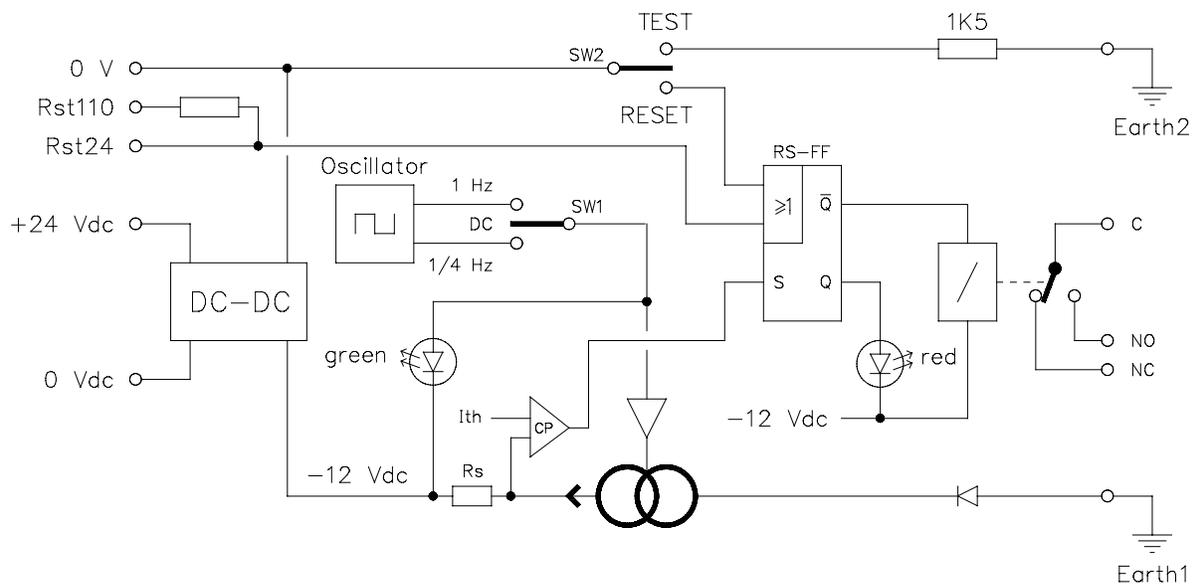

Figure 2 Block diagram of 10310/2/1 ELD
An earth fault sets the flip-flop (FF), and de-energizes the relay (see Figure 2). The flip-flop remains set until a reset is given. This can be done in three ways: